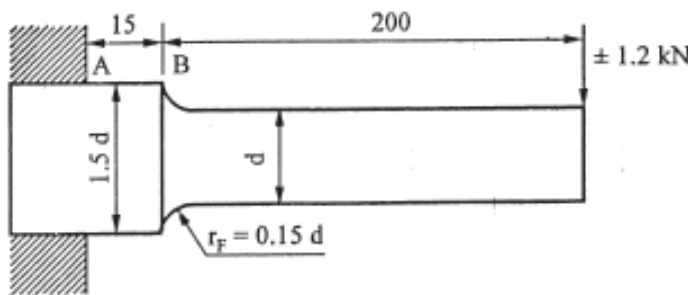

FIGURE 6, QUE 9b
- b) A cantilever beam having an ultimate tensile strength of 500 N/mm^2 is subjected to a completely reversing load of 1.2 kN as shown in Figure 6. The notch sensitivity at the fillet is 0.6 . Determine the diameter 'd' for a life of 8000 cycles. Assume surface factor as 0.8 , size factor as 0.9 and the calculations are expected at 90% reliability, for which the reliability factor is 0.897 .